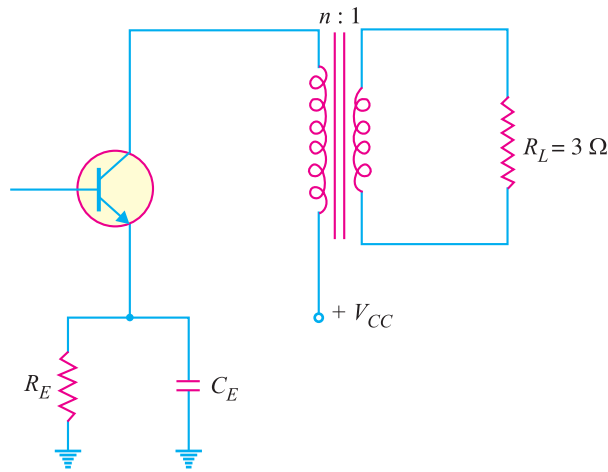

Fig. 11.18
**Example 11.18.** The output resistance of the transistor shown in Fig. 11.18 is  $3\text{ k}\Omega$ . The primary of the transformer has a d.c. resistance of  $300\Omega$  and the load connected across secondary is  $3\Omega$ . Calculate the turn ratio of the transformer for transferring maximum power to the load.